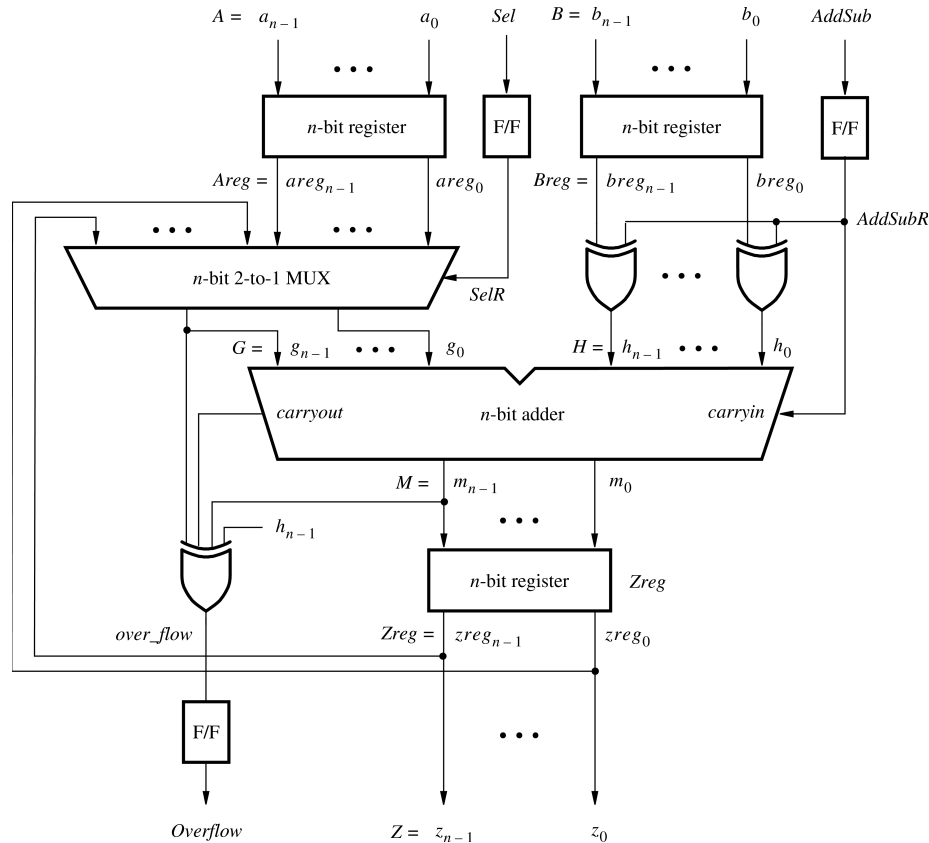
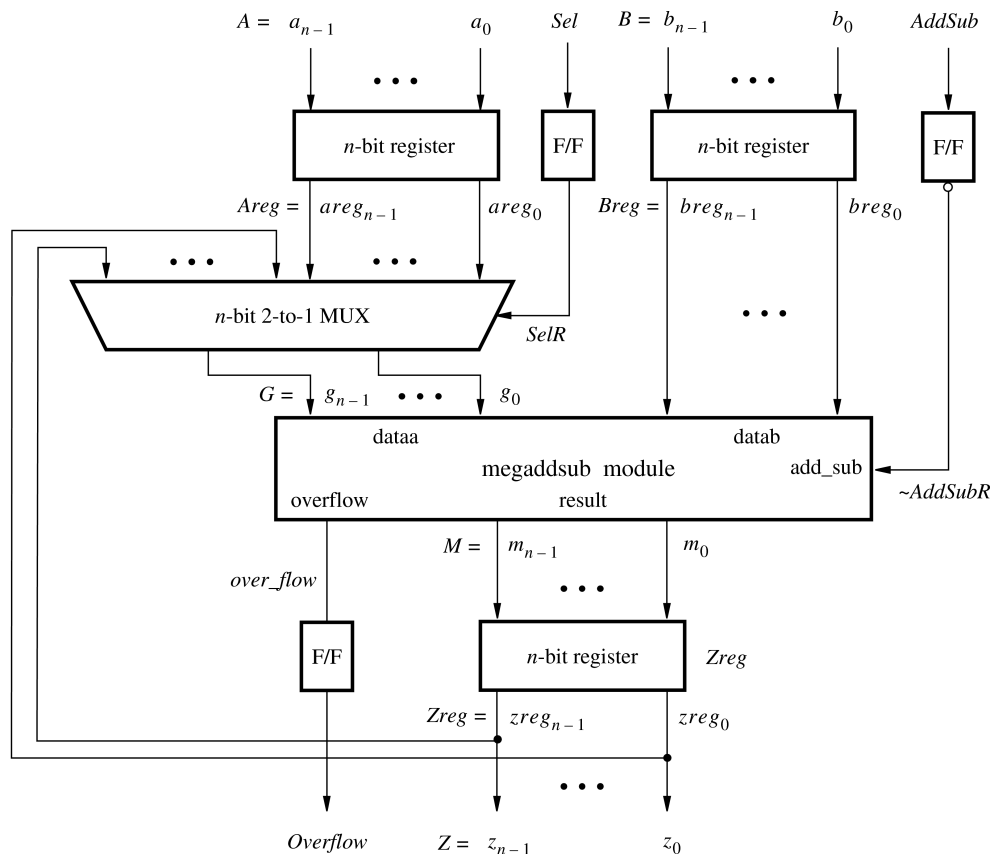
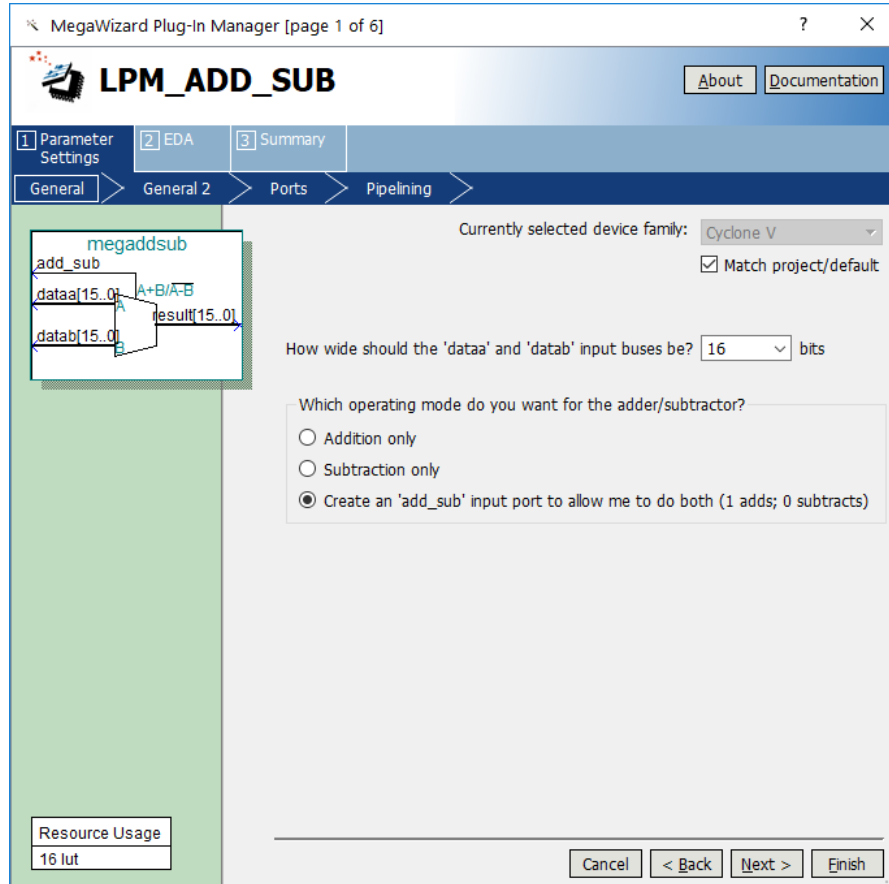

Figure 1. The adder/subtractor circuit.
Figure 3. The augmented adder/subtractor circuit.
Figure 6. Specify the size of data inputs.
As an example, we will use the adder/subtractor circuit shown in Figure 1. It can add, subtract, and accumulate n -bit numbers using the 2's complement number representation. The two primary inputs are numbers $A = a_{n-1}a_{n-2}\cdots a_0$ and $B = b_{n-1}b_{n-2}\cdots b_0$, and the primary output is $Z = z_{n-1}z_{n-2}\cdots z_0$. Another input is the *AddSub* control signal which causes $Z = A + B$ to be performed when *AddSub* = 0 and $Z = A - B$ when *AddSub* = 1. A second control input, *Sel*, is used to select the accumulator mode of operation. If *Sel* = 0, the operation $Z = A \pm B$ is performed, but if *Sel* = 1, then B is added to or subtracted from the current value of Z . If the addition or subtraction operations result in arithmetic overflow, an output signal, *Overflow*, is asserted.
The LPMs in the IP Catalog are general in structure and they can be configured to suit a specific application by specifying the values of various parameters. We will use the *lpm_add_sub* module to simplify our adder/subtractor circuit defined in Figures 1 and 2. The augmented circuit is given in Figure 3. The *lpm_add_sub* module, instantiated under the name *megaddsub*, replaces the adder circuit as well as the XOR gates that provide the input *H* to the adder. Since arithmetic overflow is one of the outputs that the LPM provides, it is not necessary to generate this output with a separate XOR gate.
- In the box in Figure 6 specify that the width of the data inputs is 16 bits. Also, specify the operating mode in which one of the ports allows performing both addition and subtraction of the input operand, under the control of the *add_sub* input. A symbol for the resulting LPM is shown in the top left corner. Note that if *add_sub* = 1 then *result* = $A + B$; otherwise, *result* = $A - B$. This interpretation of the control input and the operation performed is different from our original design in Figures 1 and 2, which we have to account for in the modified design. Observe that we have included this change in the circuit in Figure 3. Click Next.
- The *adderk* entity, which specifies the adder circuit, is replaced by *megaddsub* entity. Note that the *dataa* and *datab* inputs shown in Figure 6 are driven by the *G* and *Breg* vectors, respectively.